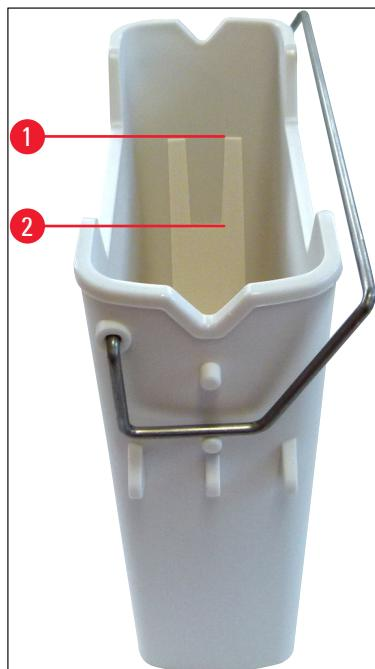

Fig. 18
- » Check whether the reagent vessel handle is correctly attached to the reagent vessel. If this is not the case, fasten the handle according to (\rightarrow Fig. 18).